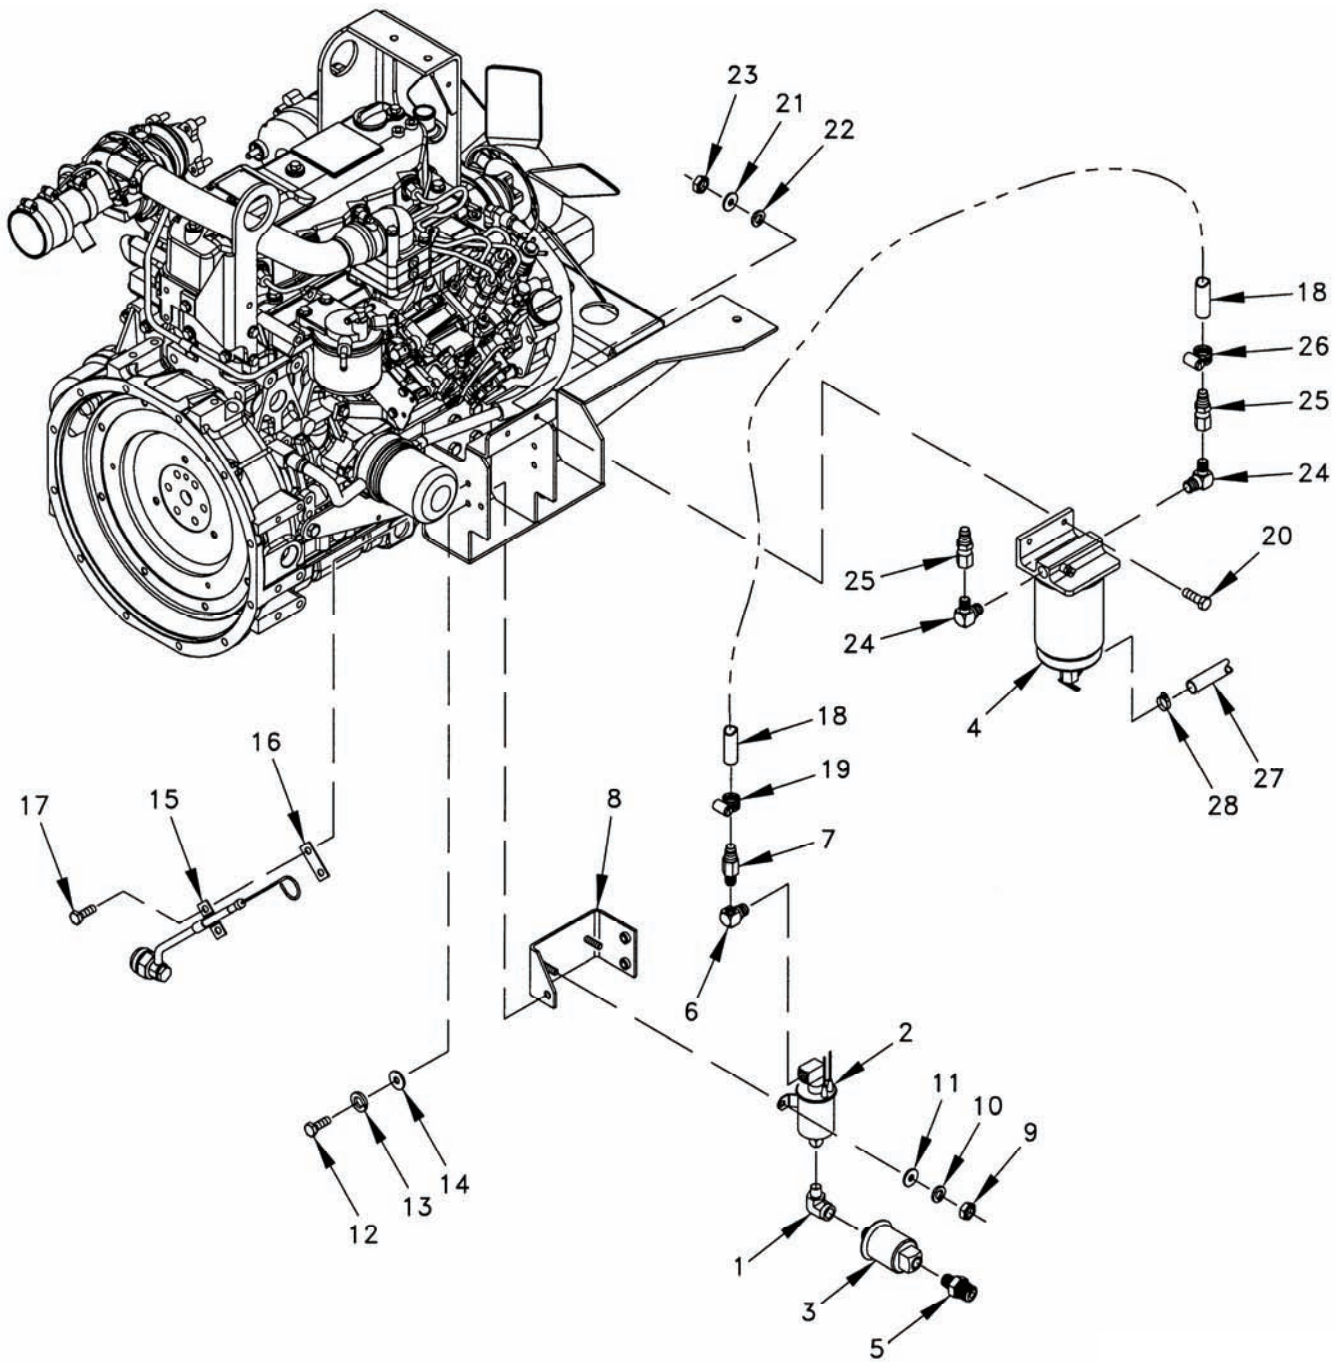

Figure 5-23. Right Side Engine Fuel Components.
- a. Install elbow (1, Figure 5-23) (Item 49, Table 5-1) to fuel pump (2) (Item 43, Table 5-1) using sealing compound (Item 6, Table 5-2).
- b. Install fuel filter (3) (Item 44, Table 5-1) to elbow (1) using sealing compound (Item 6, Table 5-2). Orient filter approximately 20 degrees to left so that hose connected later will not interfere with fuel/water separator (4).
- c. Install fitting (5) (Item 86, Table 5-1) to fuel filter (3) using sealing compound (Item 6, Table 5-2).
- d. Install elbow (6) (Item 49, Table 5-1) to fuel pump (2) using sealing compound (Item 6, Table 5-2).
- e. Install fitting (7) (Item 86, Table 5-1) to elbow (6) using sealing compound (Item 6, Table 5-2).
- f. Install fuel pump (2) to bracket (8) (Item 71, Table 5-1) using two nuts (9) (Item 61, Table 5-1), lock washers (10) (Item 58, Table 5-1), and flat washers (11) (Item 59, Table 5-1).
- g. Install fuel pump bracket (8) using three screws (12) (Item 62, Table 5-1), lock washers (13) (Item 58, Table 5-1), and flat washers (14) (Item 59, Table 5-1).
- h. Attach bracket on oil dipstick extension (15) using spacer (16) (Item 80, Table 5-1) and two screws (17) (Item 62, Table 5-1).
- i. Install 11-inch (27.9 cm) hose (18) (Item 19, Table 5-1) to fuel pump (2) using hose clamp (19) (Item 21, Table 5-1).
- j. Install fuel/water separator (4) (Item 60, Table 5-1) using two screws (20) (Item 79, Table 5-1), lock washers (21) (Item 58, Table 5-1), flat washers (22) (Item 59, Table 5-1), and nuts (23) (Item 61, Table 5-1).
- k. Install two elbows (24) (Item 72, Table 5-1) and fittings (25) (Item 73, Table 5-1) to fuel/water separator (4) using sealing compound (Item 6, Table 5-2).